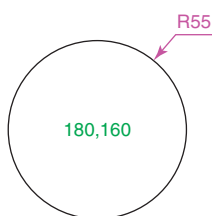

Fig. 2.13 First example – Circle tool
First example – circle tool (Fig. 2.13)
3. Enter a coordinate and a radius against the prompts appearing in the command window as shown in Fig. 2.12, followed by *right-clicks*. The circle (Fig. 2.13) appears on screen.